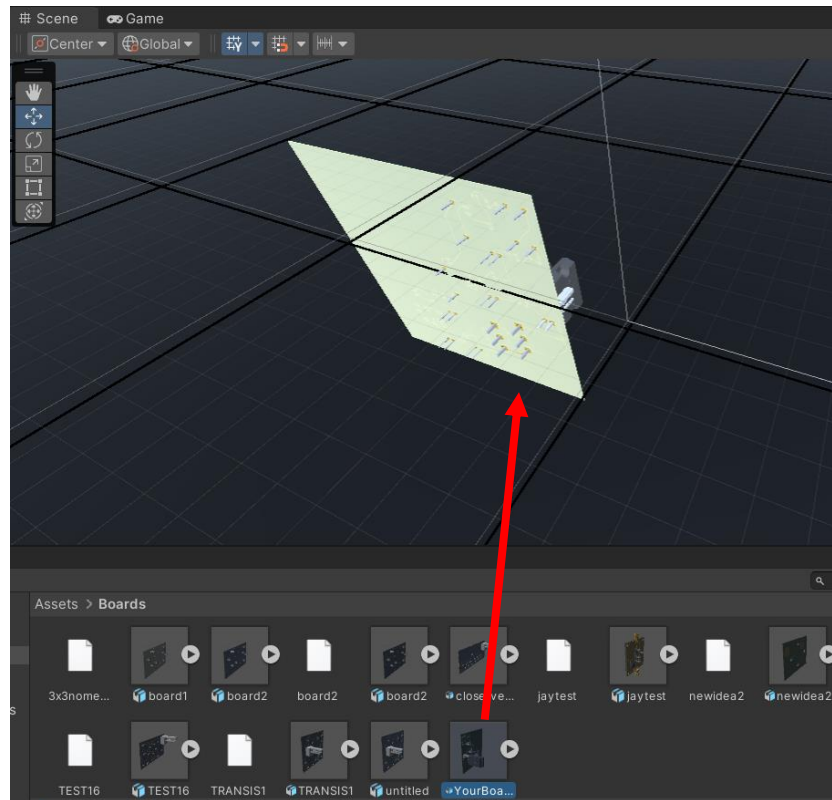

Figure 11: Dragging in the PCB
b. Click on your board and drag it into the Scene View. It does not matter where it is placed in the Scene, as through the following steps and the background code, it will be placed for you. Figure 11 demonstrates this task. *Disregard excess boards shown in figure.